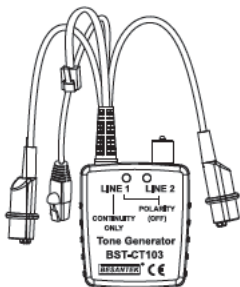

Figure 2
- A 3-position toggle switch controls the modes of operation and two bi-colored LEDs display line polarity for Lines 1 and 2. (Figure 2)